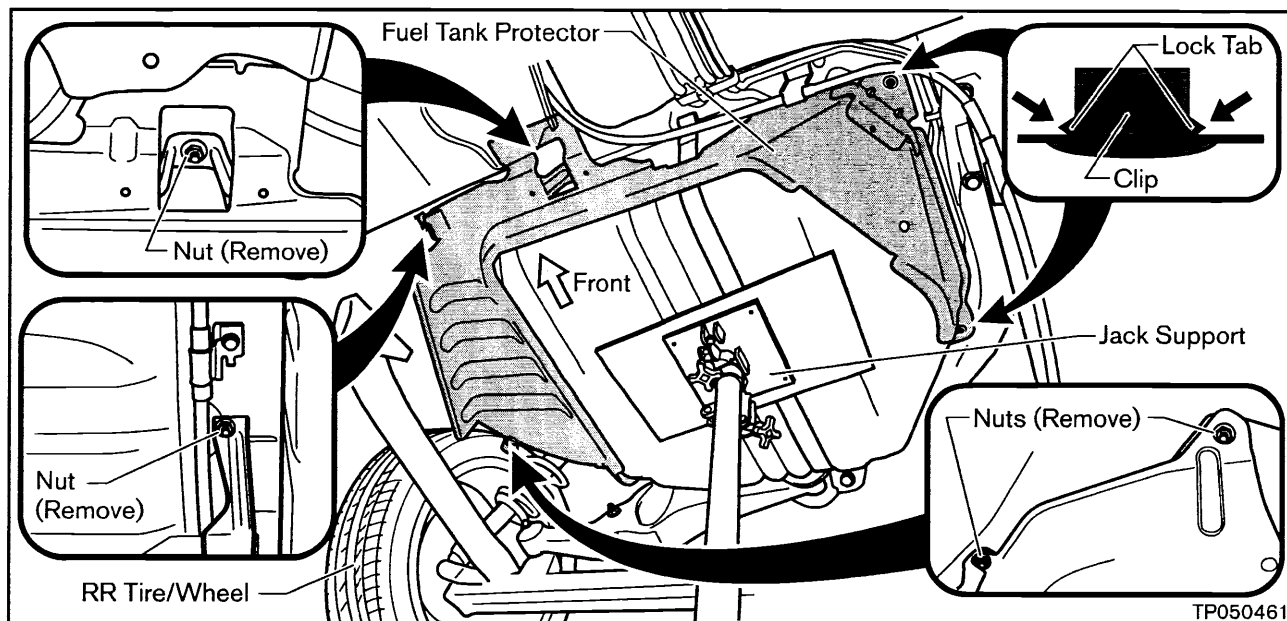

Figure 12
- a. Remove four Nuts and two Plastic Clips that hold the Fuel Tank Protector (see Figure 12).
- To remove the Plastic Clips, press IN on the Lock Tabs (see Figure 12).